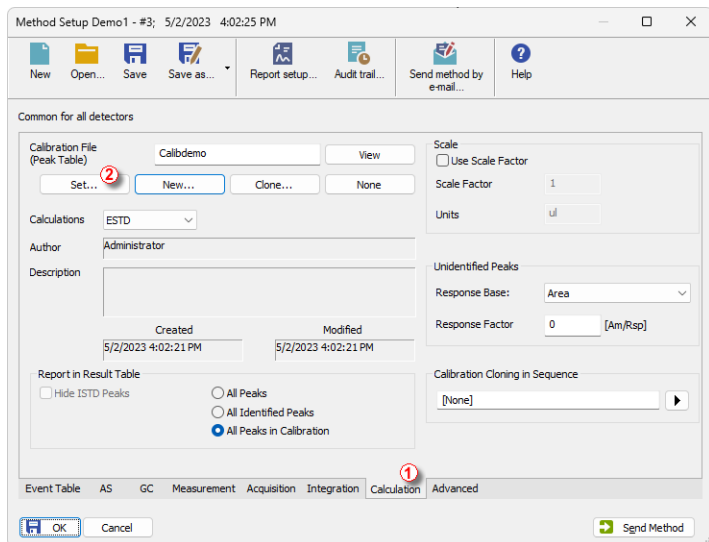

Fig. 17: Method Setup - the Calculation tab
- Return to the *Instrument* window and use the *Method - Calculation...* command to open the *Method Setup* dialog directly on the *Calculation* tab  as shown on **Fig. 17** on pg. 30. Alternatively, open the *Method Setup* by clicking on the icon  and then move to the *Calculation* tab.